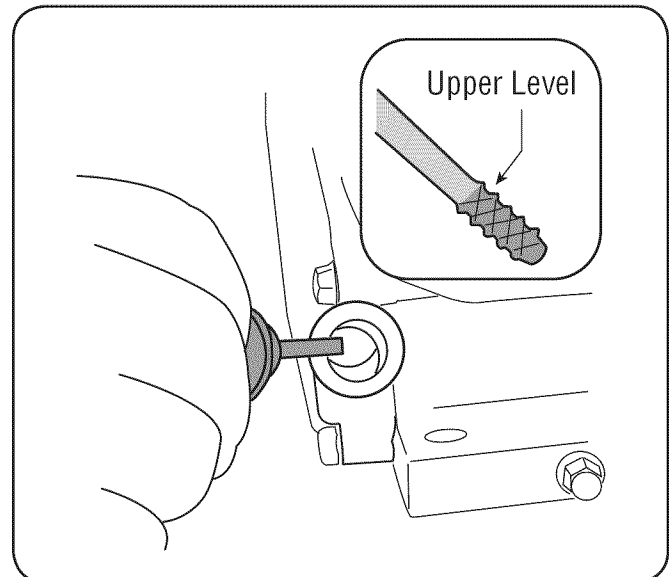

Figure 3-2
- Keep oil level near or slightly below the upper level mark on the dipstick or to point of overflow on engines without dipstick. See Fig. 3-2.
1. Remove the oil filler cap/dipstick and wipe the dipstick clean. See Fig. 3-2.
3. Remove the oil filler cap/dipstick. If the level is low, slowly add oil until oil level registers between high (H) and low (L), Fig. 3-2.